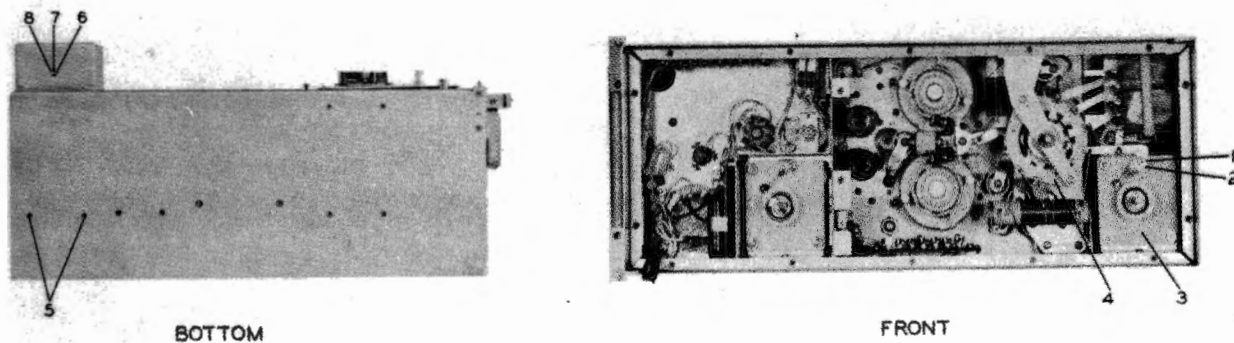

Figure 3-5. Radio Frequency Amplifier AM-2061/URT, Front and Bottom View
e. VARIABLE INDUCTOR (L10) FROM CHASSIS. - Refer to figure 3-5 and proceed as follows:
(1) Remove nut (1) and lock washers (2) from variable inductor L10 (3) that mount the strap from switch S6 (4). Bend the strap back enough to clear the variable inductor (3).
(2) Unsolder and remove strap from switch wafer of switch S6 (4). This strap is the one from the rear of variable inductor L10 (3).
(3) Remove the two flathead screws (5) that mount the front end of the variable inductor (3) to the chassis.